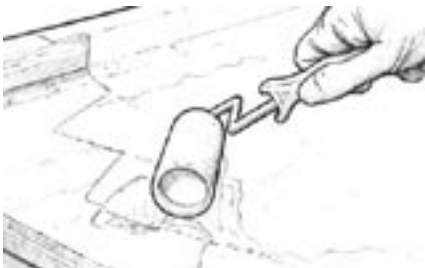

Figure 9-14 Wet out porous surfaces before applying thickened fairing compound.
2. Wet out porous surfaces with resin/hardener mix (*Figure 9-14*). (If allowed to cure, wash, sand and dry before proceeding).